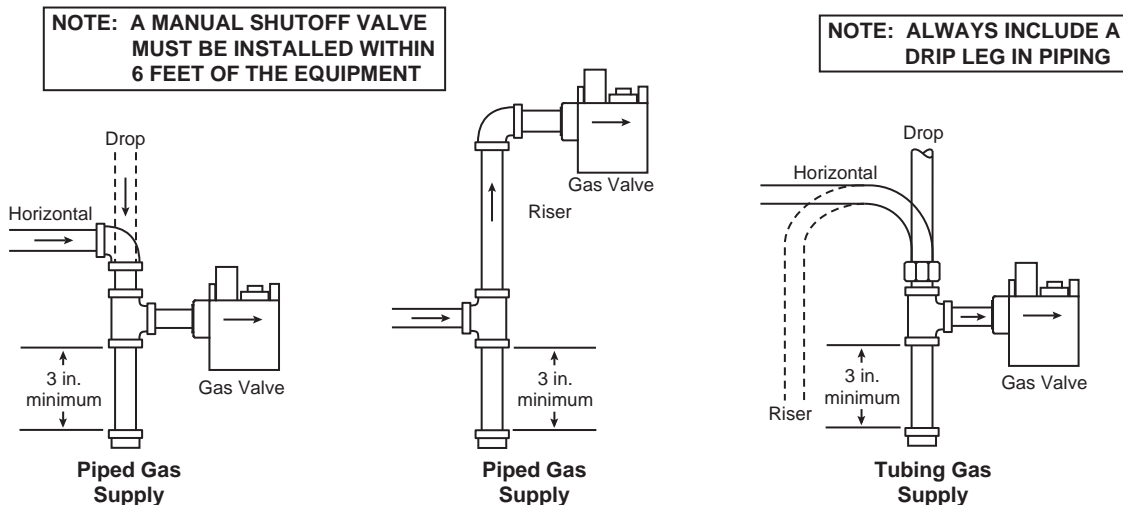

Figure 2. Typical gas valve piping
5. Apply pipe joint compound (pipe dope) **that is approved for all gases, only to the male threads of the pipe joints. DO NOT** apply compound to the first two threads (see fig. 2 for typical piping connections).